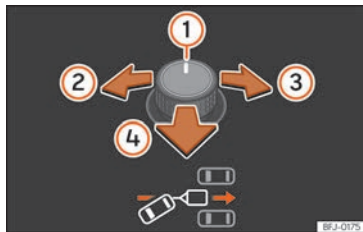
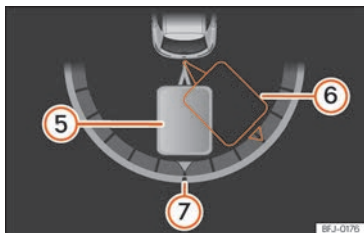

Fig. 147 Outside rearview mirror rotary control: adjust the trailer angle.
Fig. 148 Instrument cluster display: engage reverse.
Key to the >>> Fig. 147, >>> Fig. 148:
- Tilt the rotary control until the desired direc-tion is reached >>> Fig. 147. A representation of the tow vehicle and trailer set is shown on the instrument cluster screen for guidance purpo-ses >>> Fig. 148.